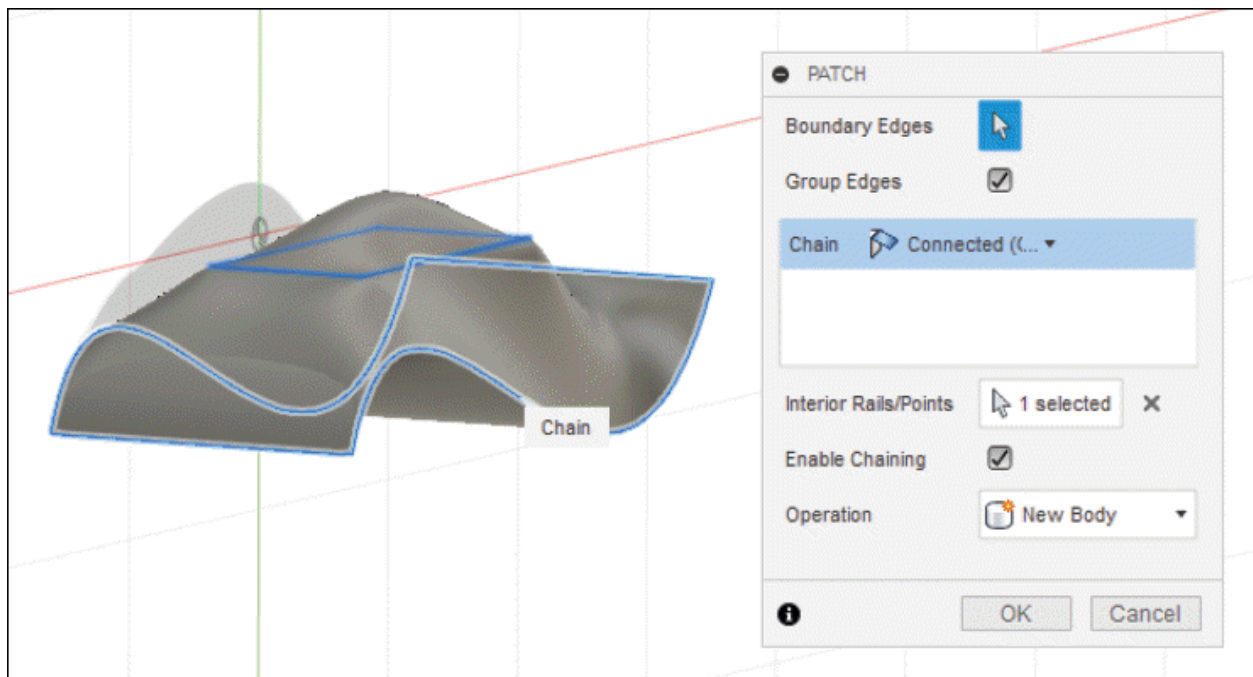

Figure-8. Preview of Patch
- After specifying the parameters, the preview of patch will be displayed; refer to Figure-8.